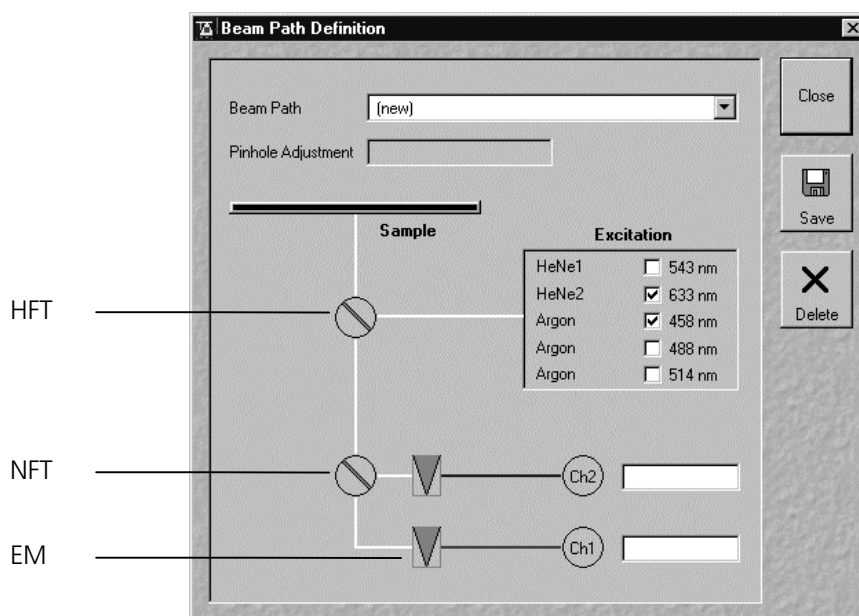

Fig. 5-207 Beam Path Definition window
Activation / deactivation of a main dichroic beam splitter (HFT) or secondary dichroic beam splitter (NFT) through selection from the relevant list box (Fig. 5-207).
Activation / deactivation of an emission filter (EM) through selection from the relevant list box (Fig. 5-207).